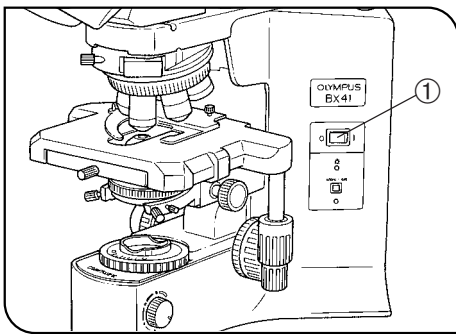

Fig. 1
(Fig. 1)
3. To avoid potential shock hazards and burns when replacing the light bulb, set the main switch ① to “○” (OFF) then disconnect the power cord from the wall outlet in advance. Whenever you replace the bulb during use or right after use, allow the lamp socket ② and bulb to cool before touching. (Figs. 1 & 2)